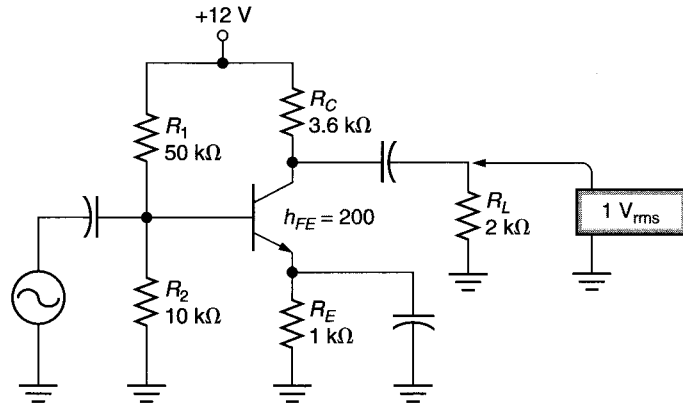

FIGURE 11.47
2. Calculate the compliance of the amplifier in Figure 11.47.
6. Calculate the value of  $P_S$  for the amplifier in Figure 11.47.
8. Calculate the value of  $P_L$  for the amplifier in Figure 11.47.
10. Calculate the maximum possible load power for the circuit shown in Figure 11.47.
12. Assuming that the amplifier in Figure 11.47 is driven to compliance, calculate the efficiency of the circuit.